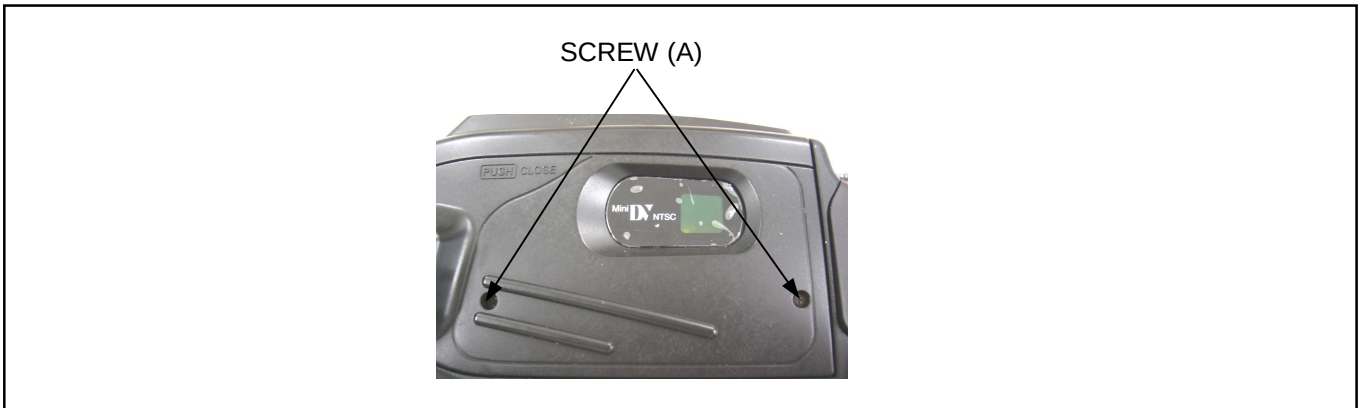

Figure 10-1
8. Unscrew the 2 screws (A) and remove the Cassette Cover Unit as shown in figure 10-1.